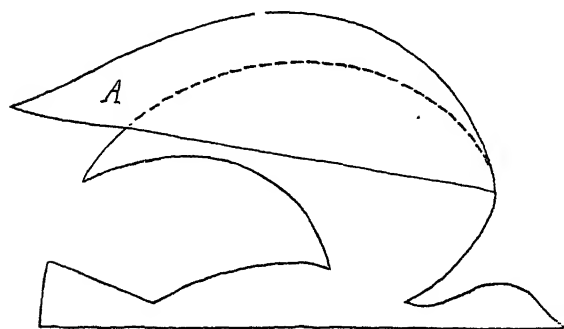

FIG. 477
(5) The wings can be made larger if necessary by the addition of tissue-paper wings gummed on as *A* in Fig. 477.